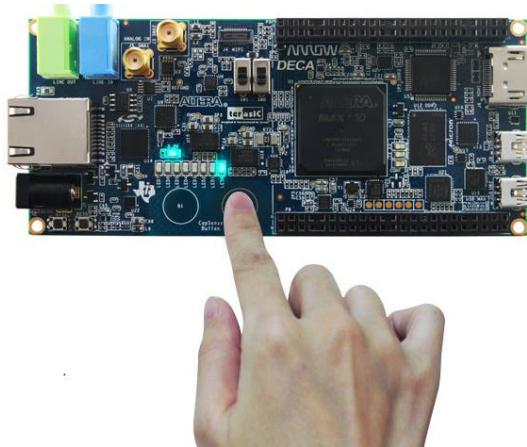

Figure 6-4 Press the CapSense button
- Press the CapSense button will light up corresponding LED, as shown in **Figure 6-4**. If B0 or B1 is pressed, LED[0] or LED[1] will lit, respectively. If both B0 and B1 are pressed, both LED[0] and LED[1] will lit simultaneously.